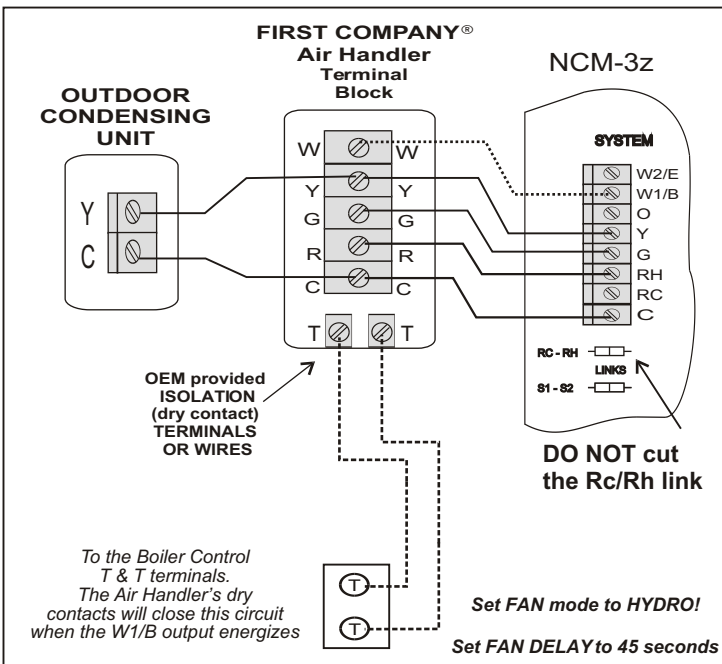

Figure 17
* Figure 17 pertains to First Company® Air Handlers only. This OEM provides the isolation circuit for you. There’s no need for a field relay.